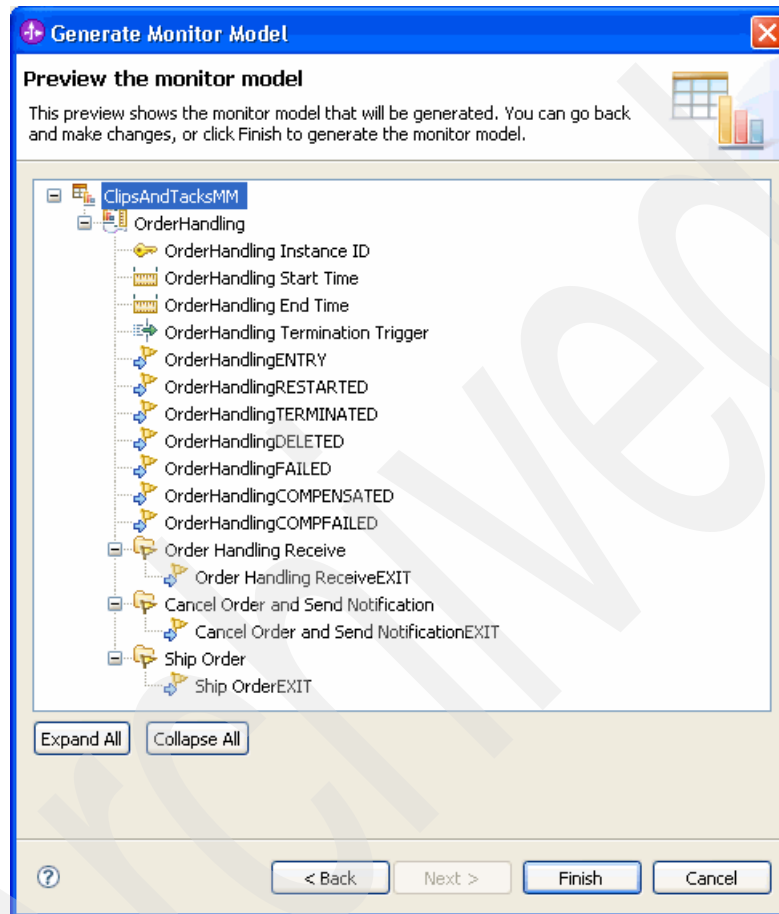

Figure 5-25 Monitor Model preview
7. In the Generate Monitor Model – Preview the monitor model window (Figure 5-25), review the monitor model. Click **Back** to make changes as necessary or click **Finish** to generate the monitor model.